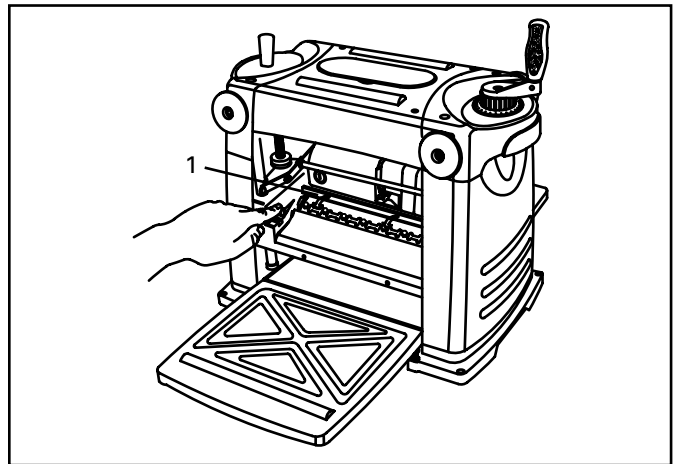

Fig. 14
3. Press the arbor lock latch (2) and turn the cutter head until it exposes eight hex head screws (Fig. 14).